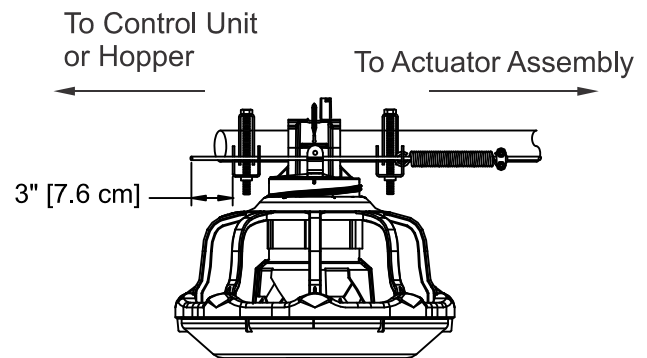

Figure 72. Trim excess actuator wire at control/hopper
8. With the brood in the open position. Go to the control unit or hopper end to trim the extra actuator wire. Leave **3 inches [7.6 cm]** of excess wire past the spring bracket, see figure 72.